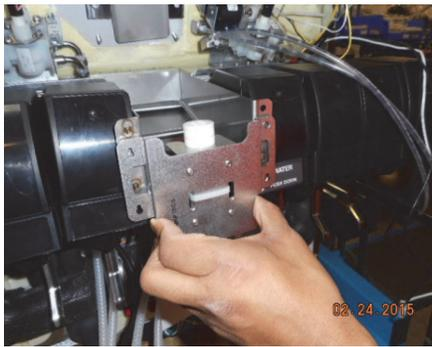

Figure 12A.
9. Install Flavor shot Nozzle assembly, as shown in Figure 12A.